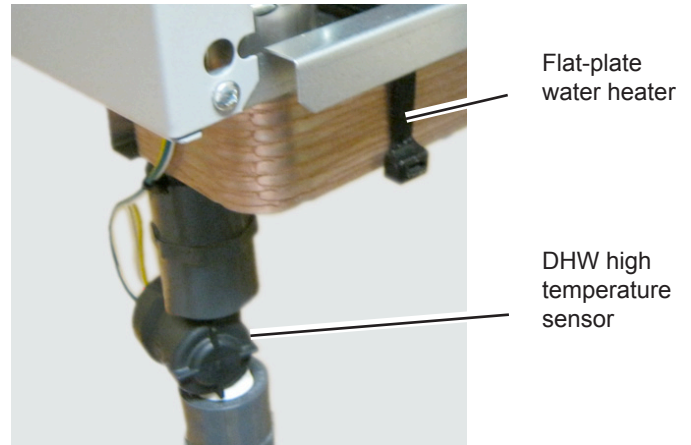

Fig. B22-1 - DHW Flow Sensor
4. The DHW flow sensor is mounted in the lower rear of the unit. See Fig. B22-1.